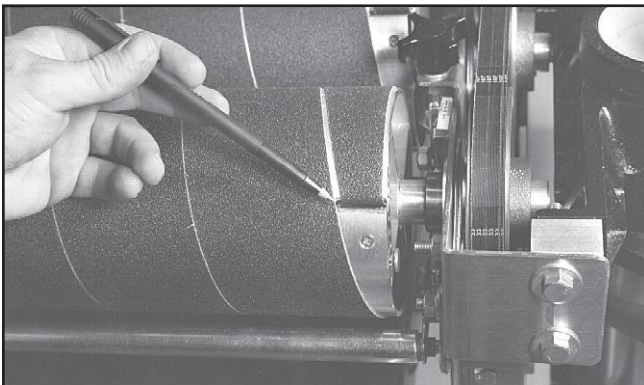

Fig. 16H Allow room inside slot for strip to move.
5. The take-up fastener is designed to automatically take up any slack caused by stretching of the abrasive strip. **Important: Position the abrasive strip in the slot with sufficient room between the inside of the slot and the tapered end of the strip to allow it to be pulled into the drum as needed (Fig. 16H).** Note that not leaving enough space between the strip and the inside of the slot will prevent the take-up fastener from operating properly.